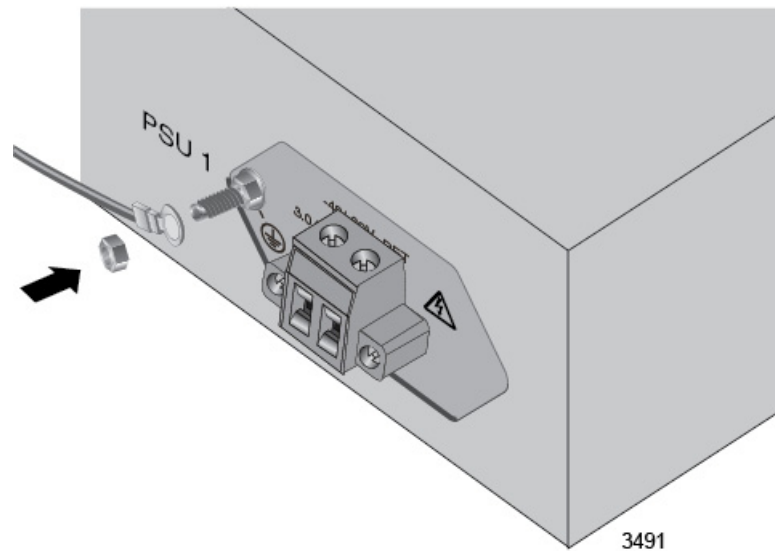

Figure 37. Installing the Grounding Wire
4. Attach the grounding lug and wire to the grounding post and secure them with the nut removed in Step 3 and a 7mm wrench. Allied Telesis recommends tightening the nut to 15 in-lbs. Refer to Figure 37.